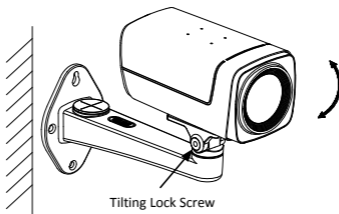

Figure 2-7 Tilting
- 4). Loosen the tilting lock screw, and adjust the tilting angle of the camera up to 90° as shown in Figure 2-7.